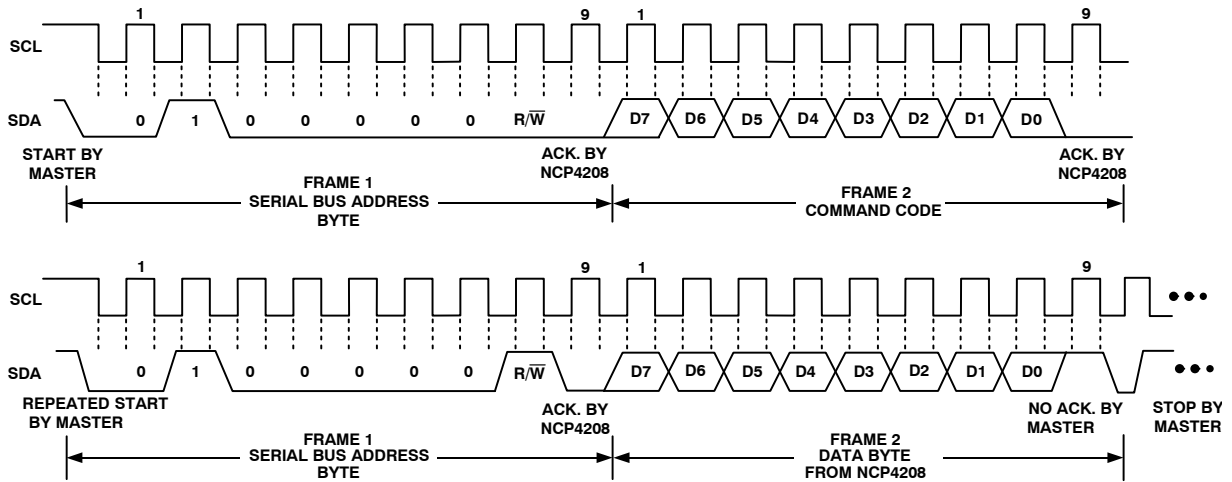

Figure 13. Read Byte
2. The read byte operation is shown in Figure 13. First the command code needs to be written to the NCP4208 so that the required data is sent back. This is done by performing a write to the NCP4208 as before, but only the data byte containing the register address is sent, because no data is written to the register. A repeated start is then issued and a read operation is then performed consisting of the serial bus address; R/\overline{W} bit set to 1, followed by the data byte read from the data register.